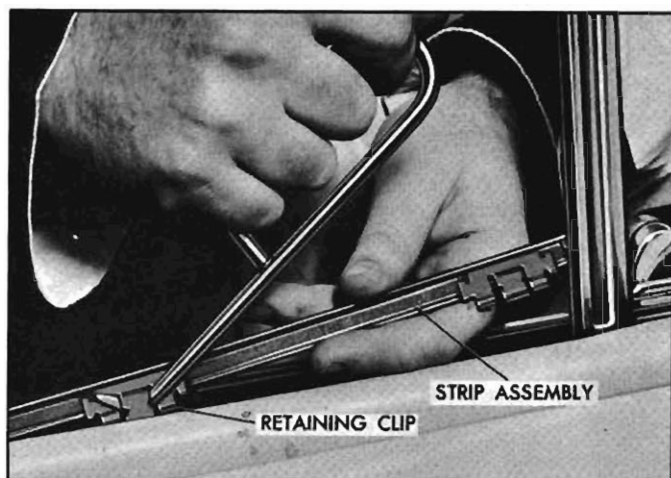

Fig. 8—Glass Run Channel Strip (Outer Shown)
2. Insert a pointed hooked tool between strip assembly to be removed and door panel at clip locations and pull up to disengage clips from door panel and remove strip assembly (fig. 8).
4. If window is to be removed, remove glass run inner strip assembly (fig. 8); then raise window, front edge first, and remove it from between the panels at the belt line.